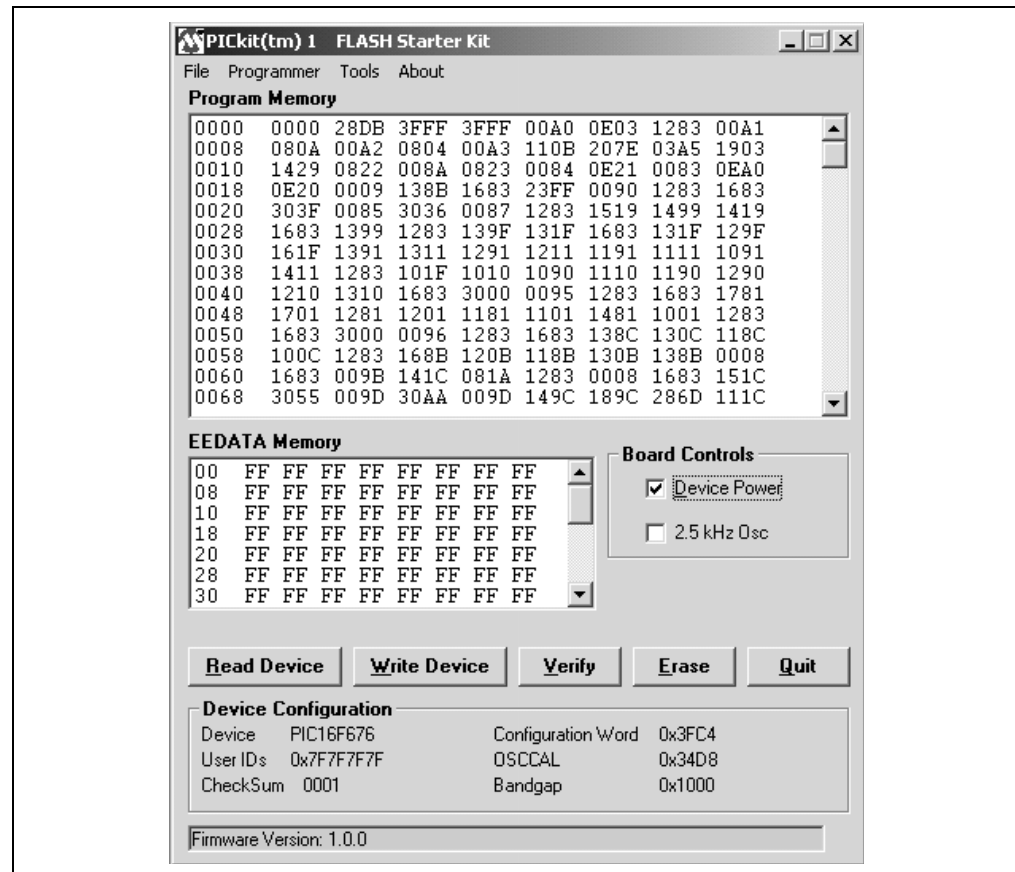

FIGURE 2-4: PICKit™ 1 Flash Starter Kit GUI Window on the PC.
3. Once the PICKit 1 Flash Starter Kit is started, the main window will be displayed on the PC, as indicated in Figure 2-4.
4. Toggle device power to off by unchecking the **Device Power** box under **Board Controls** in the PICKit 1 Flash Starter Kit window (Figure 2-4). The **BUSY** LED on the PICKit 1 Flash Starter Kit board will turn off once the device power is turned off.